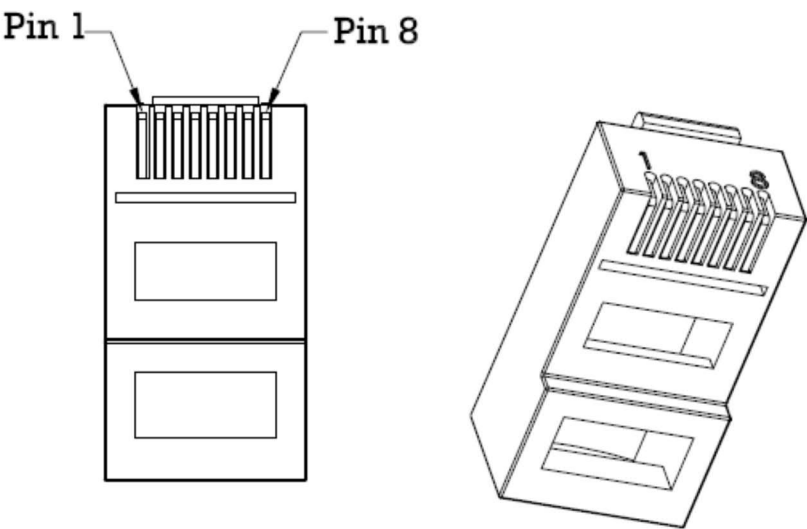

Figure 11
- ☞ Follow the assigned colors of the 24# x 3P wires for termination to the RJ45 Plug (see Figure 11)